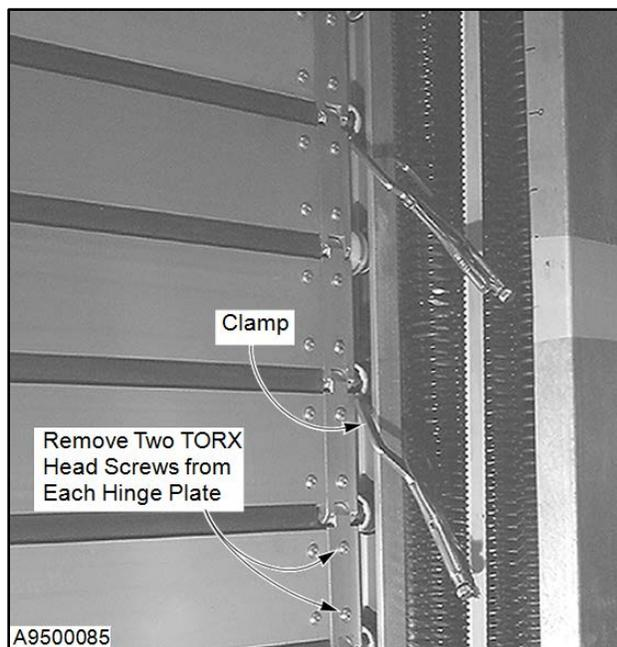

Figure 75
4. Once the door is positioned, clamp both sides of the door to the vertical track. Position clamps along both edges of the door. (See Figure 75.)
6. Remove the TORX head screws from the hinge plates along both sides of the roller to be removed. (See Figure 75.)